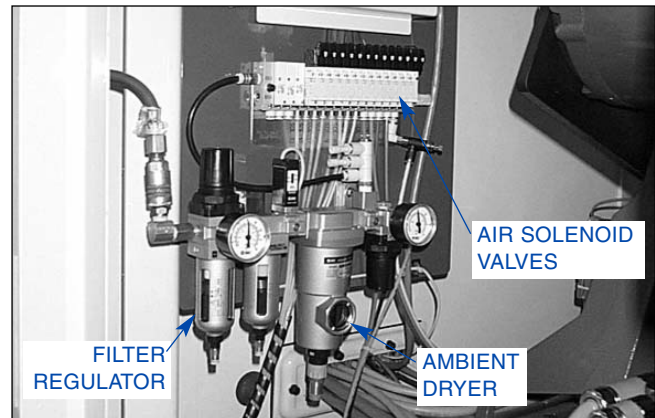

FIGURE 2-8, Pneumatic System
5. PNEUMATIC (AIR) SYSTEM is used in setup and operation of basic machine functions, as well as, providing air pressure for operation of optional Workholding Fixtures (see Figure 2-8).